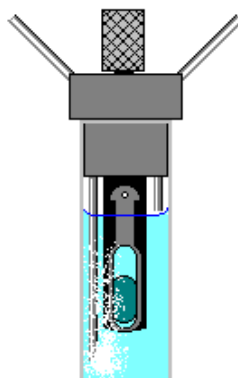

Figure 59 Bubbling gas through the cell
- Using the longer tube (or a third tube) to gently bubble gas through the sample, as shown Figure 59.